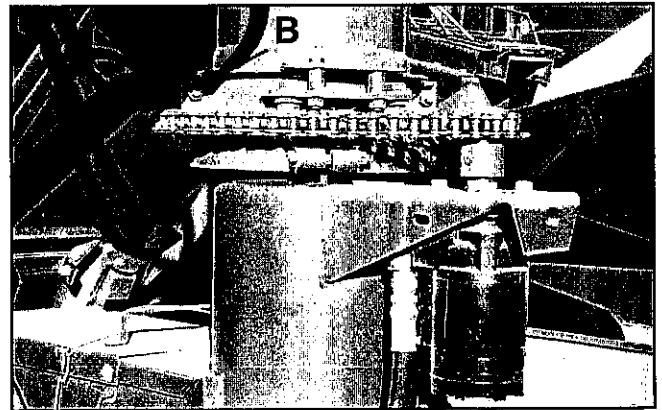

Figure 52: Hydraulic swing adjustment. (A) - Hydraulic motor bolts/chain tension; (B) - Slip band tension. (shield removed for clarity).
If any problem is encountered with this drive, adjust and/or check as follows: (see Figure 52).
5. Adjust spring tension (see "B" in Figure 52) to be sure auger will slip if it hits something solid. If it doesn't slip, damage to discharge could occur.